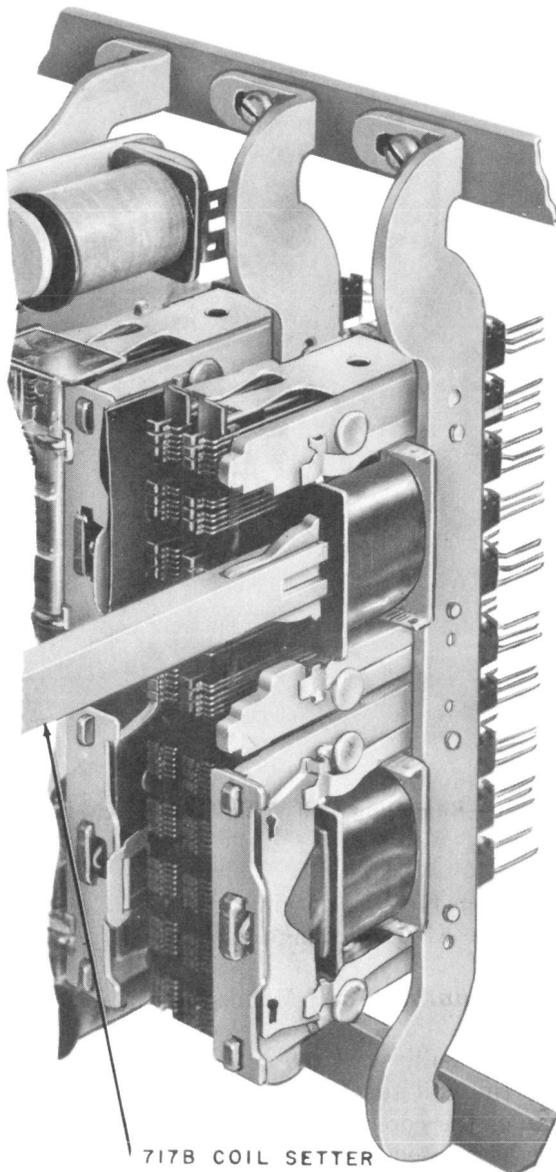

Fig. 17—Positioning Coil With 717B Coil Setter
- (1) Manually start the new coil on the core with the coil terminals at the rear and to the left of the core. Make sure the terminals enter the associated slots at the rear of the relay. If the terminals do not enter the slots, bend them at their base so they will enter.
- (2) Place the long slot of the 717B coil setter over the core leg. Position the coil on the core leg by gently tapping the coil setter with the 4-ounce riveting hammer until the bottom of the slot in the coil setter engages the end of the core leg as shown in Fig. 17.
- (3) If the relay is provided with a magnetic shunt, place the shunt on the core against the coil with the upper and lower legs of the shunt toward the front end of the core and the vertical portion of the legs to the left of the core. If necessary, use the P long-nose pliers
to hold the shunt while placing it on the core. Check that the upper and lower legs of the shunt clear their adjacent legs of the core by 1/32-inch minimum. If necessary, remove the shunt and bend the legs with the P long-nose pliers to obtain this clearance. Place the long slot of the 717B coil setter over the core leg as shown in Fig. 17. Position the magnetic shunt on the core leg by tapping the coil setter with the 4-ounce riveting hammer until the magnetic shunt is against the shoulders on the center leg of